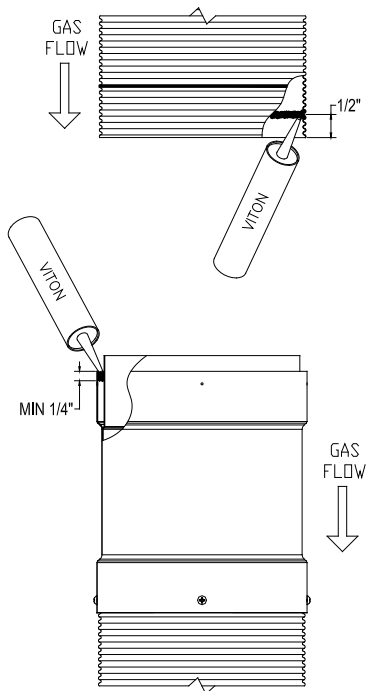

Figure 22 -DuraSeal Flex Viton® caulking
3.2. Add another bead of Viton® caulking at 1/2" from the edge of the flexible liner all around the inner side of it (Figure 22).